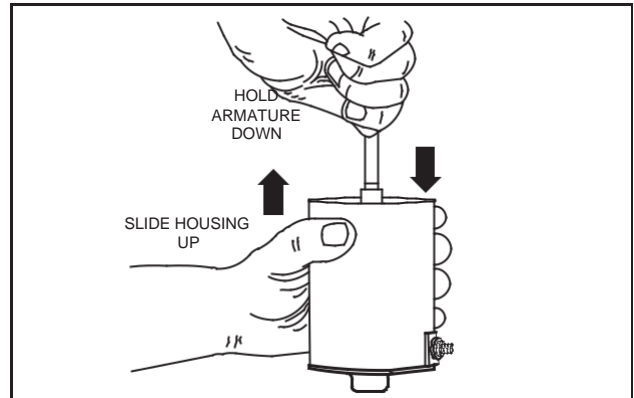

Fig. 12 – Removing Armature
3. Hold the armature and commutator end cap against a work surface while sliding housing off the armature, Fig. 12.